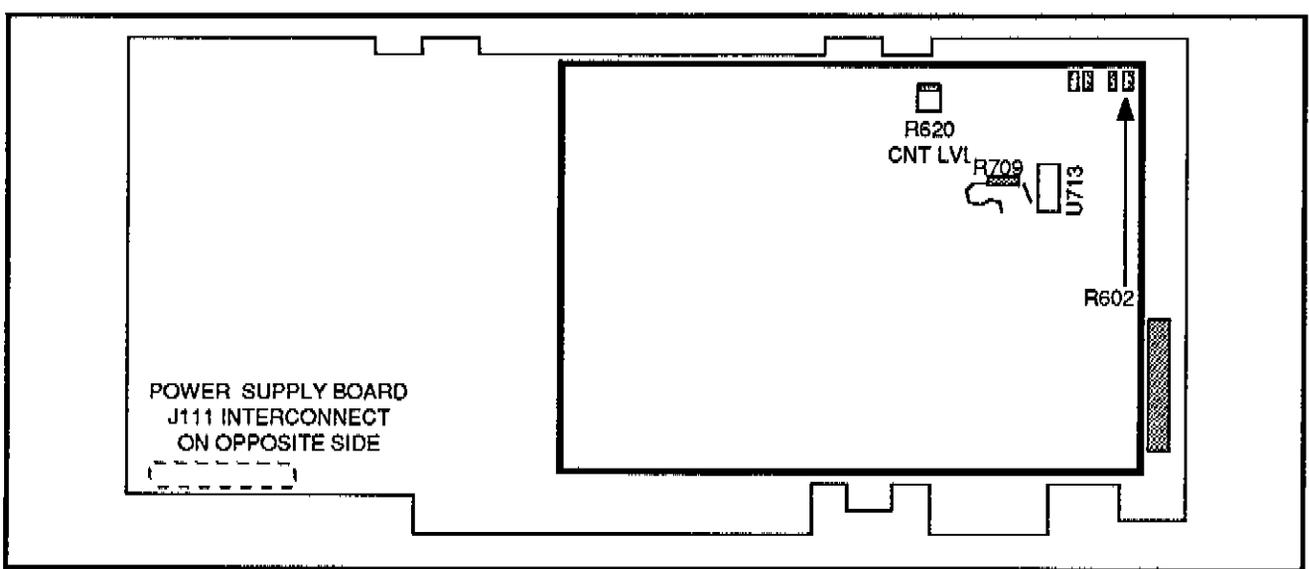

Figure 5-15. Location of R602 on the Phase Lock - CFC board.
f. If the amplitude is greater than 60 mV pick a lower value for R602. If the amplitude is lower than 40 mV, pick a higher value. See Figure 5-15 for the location of R602. The following formula helps in picking a resistor value: